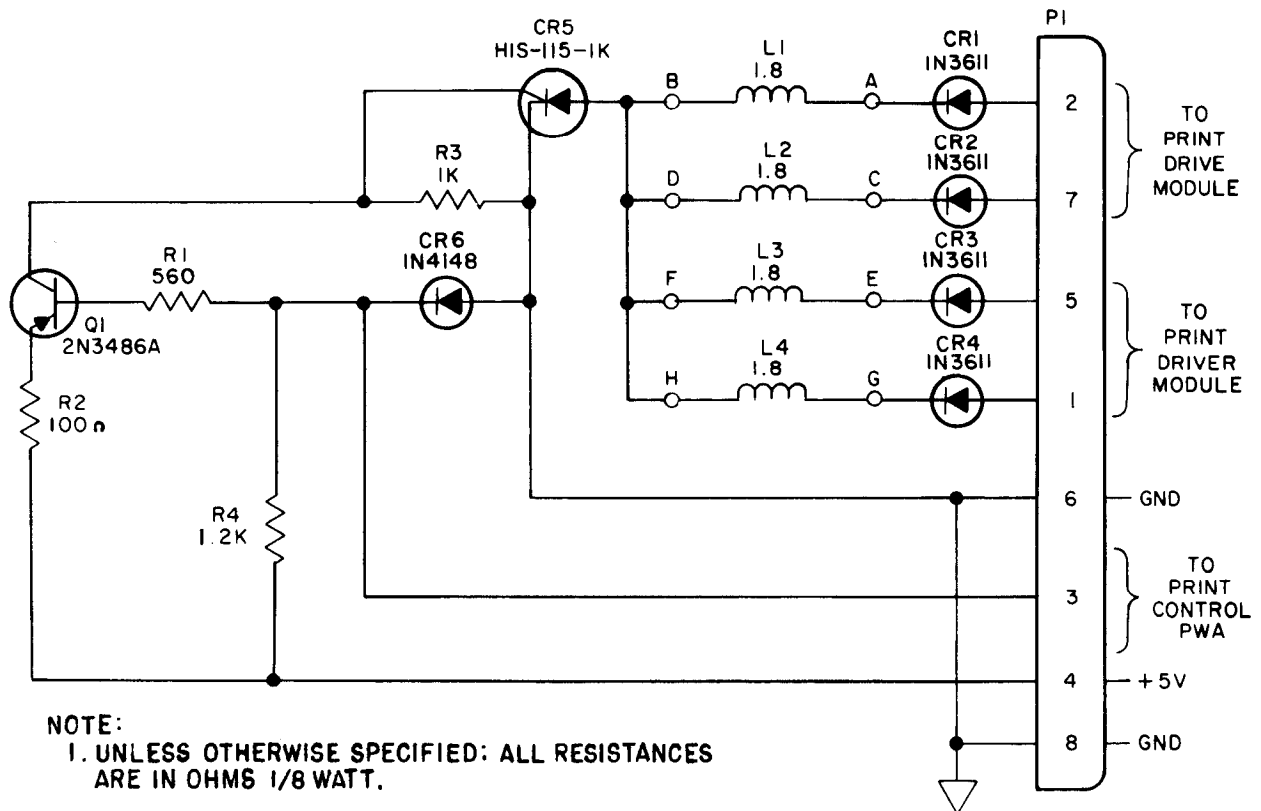

Figure 6-17. PRINT HAMMER SCHEMATIC DIAGRAM.
d. Test Procedures (fig. 6-17).